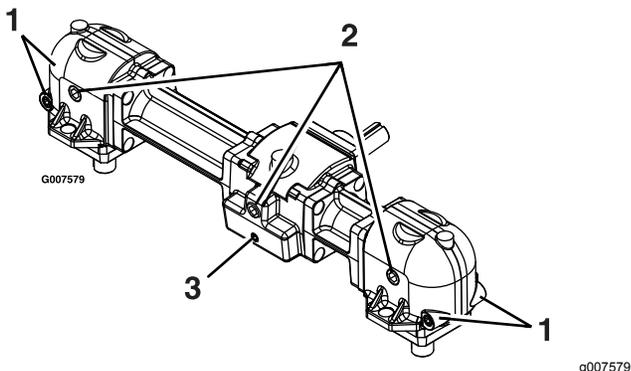

Figure 35
6. Remove the large oil drain plug on the front of each of the 3 gearbox sections and drain the oil (Figure 35).